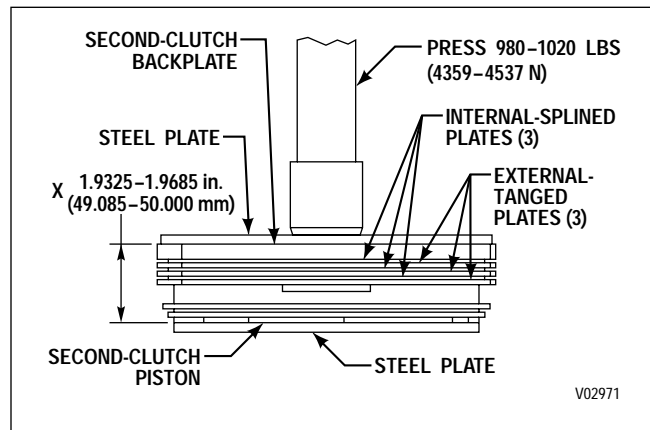

Figure 6-66. Checking Second Clutch Plate Running Clearance
(1) Stack the second clutch plates and piston as shown in Figure 6-66.
(2) Apply the specified load, and measure Dimension X.